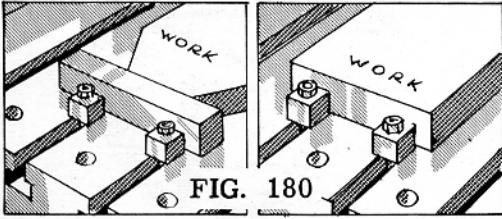

FIG. 180
9. Provide a washer and a nut for each bolt. Adjust the stop to the work. Then, tighten the nuts securely. Individual stops (C) may also be used with or without a bar (Fig. 180).